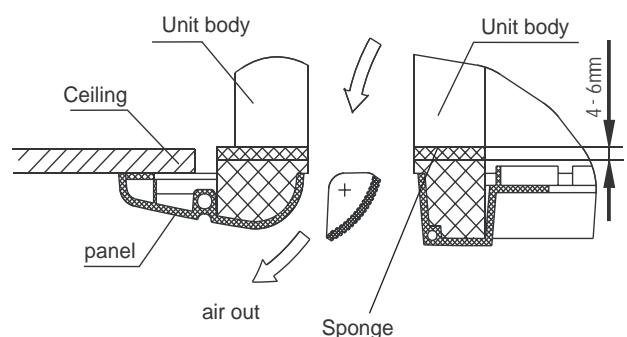

Fig.27
4. Adjust the 4 blots to keep the panel horizontal, Close the bolts until thickness of the sponge between the body and the panel has been reduced to about 4~6mm. (Fig.27)
6. Close the bolts under the panel hooks, until the thickness of the sponge between the body and the panel has been reduced to about 4~6mm. (Fig.27)